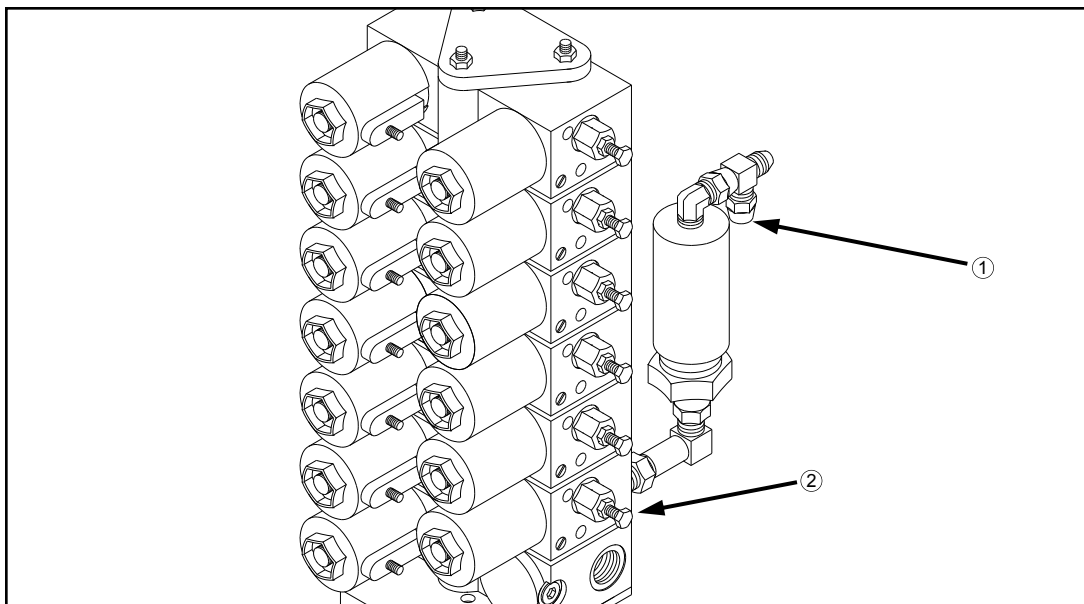

FIG 5.13
Install a 3,000 PSI pressure gauge on the inlet of the electro-hydraulic valve (fig. 5.13, item 1). With the engine running at an idle, raise each unit one at a time with the Tasseltrol® box while in “MANUAL” mode. Observe the pressure. Adjust each lift cylinder to 1000 PSI.
To increase the pressure of a given lift cylinder, turn the adjustable screw (fig. 5.13, item 2) on the raise orifice clockwise. To decrease the pressure of a given cylinder, turn the adjustable orifice screw counter-clockwise.